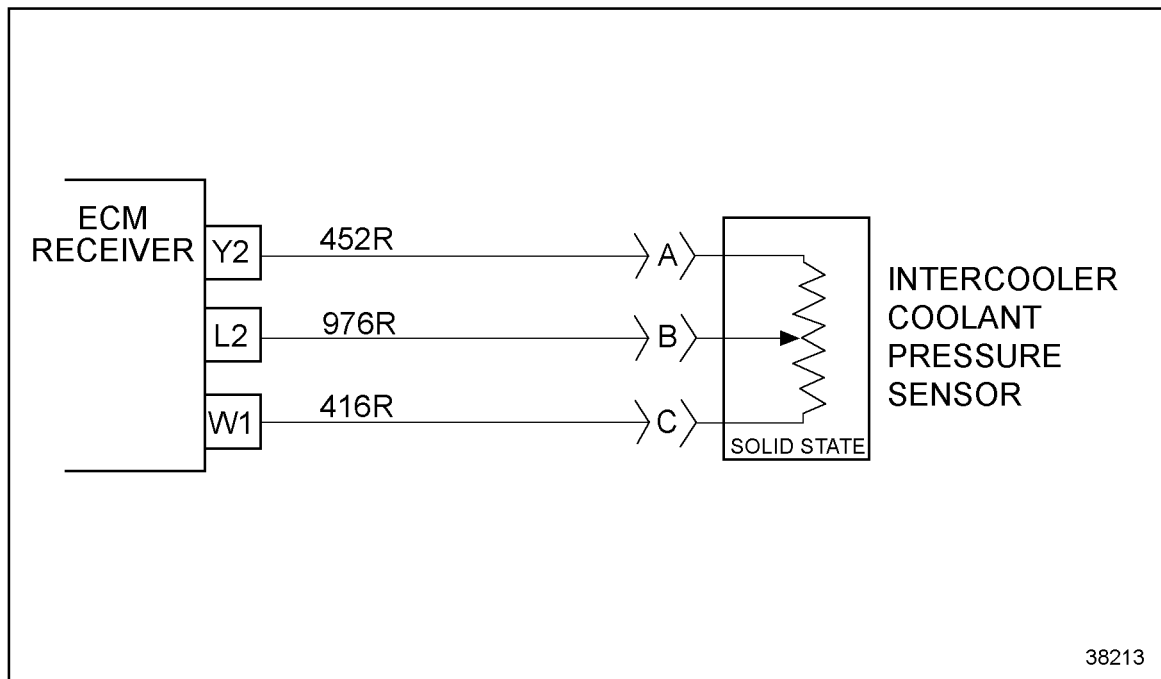
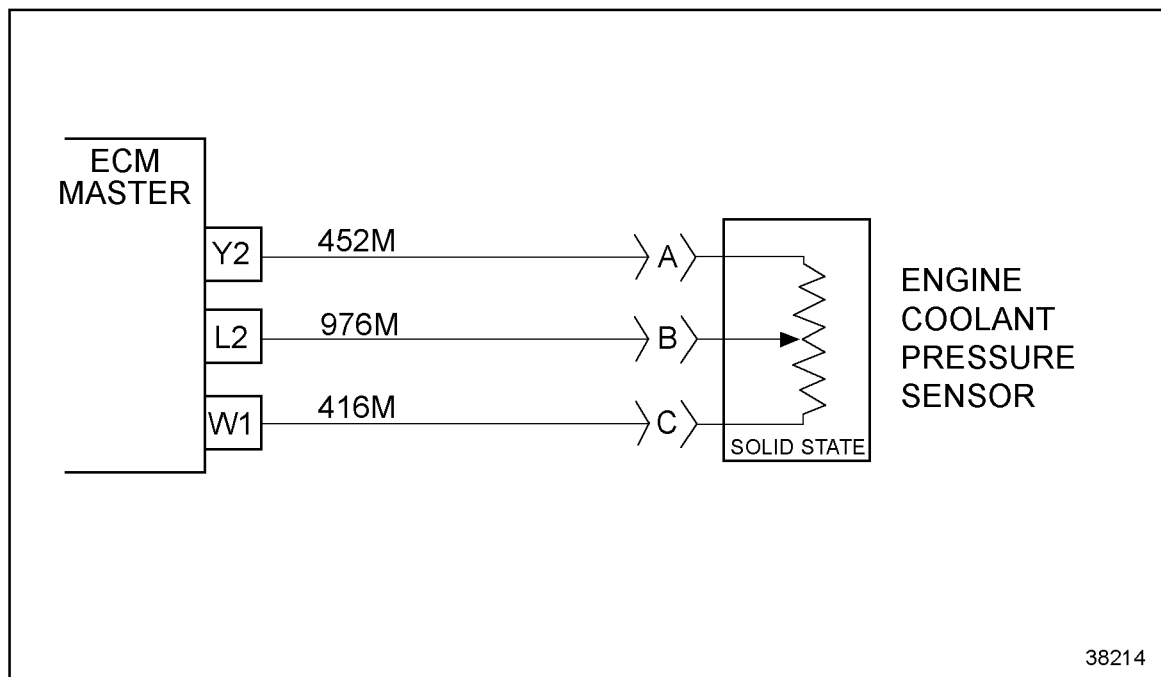

Figure 67-3 Receiver ECM
Figure 67-4 Master ECM
3. Measure the resistance between cavity B #976 and C #416. See Figure 67-3, for Receiver ECM. See Figure 67-4, for Master ECM.
- [a] If resistance is less than 10 ohms, the sensor signal (976) is shorted to the sensor return (452); repair the short or replace the harness. Then verify the repair. Refer to section 67.3.9.